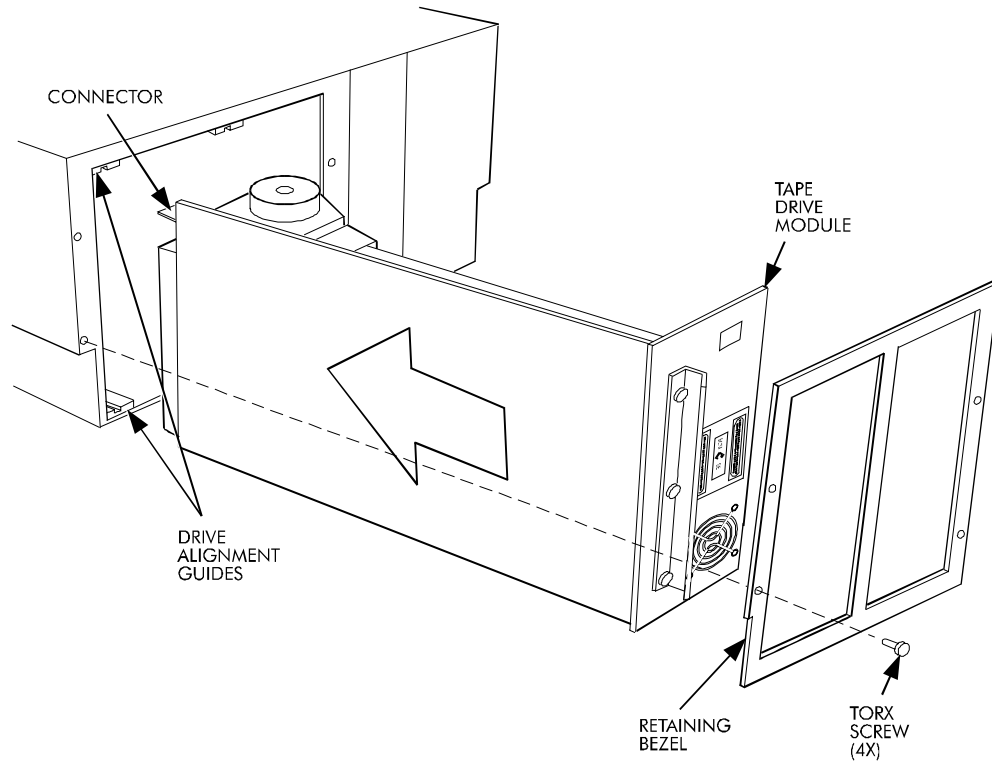

Figure 33. Tape Drive Module
3. Remove the four screws securing the retaining bezel to the tape library back panel and remove the bezel (**Figure 33**).